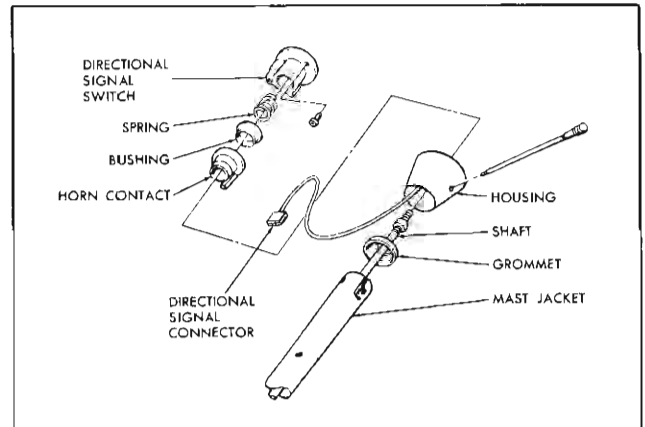

Fig. 11-54 Direction Signal Assembly
3. Rotate directional signal housing on steering column jacket and remove housing from steering jacket (Fig. 11-54).